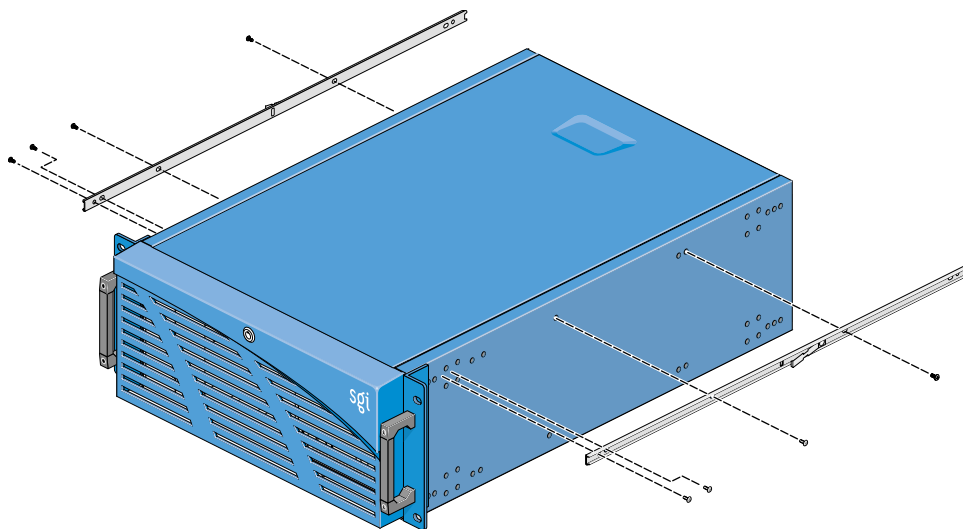

Figure 4-11 Attaching Sliders with Node Screws
4. Secure each slider with screws, as shown in Figure 4-11.